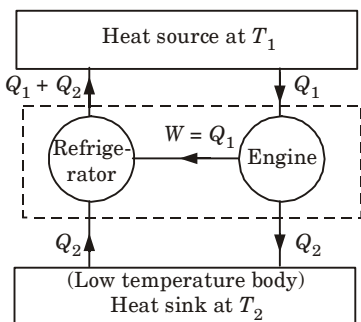

Fig. 2.
- Combining the engine the refrigerator into one system working between same temperature limits, we observe that the sole effect of combined system is to transfer Q_2 from low temperature heat reservoir T_2 to high temperature heat reservoir without any work input thus violating the Clausius statement Fig. 2.